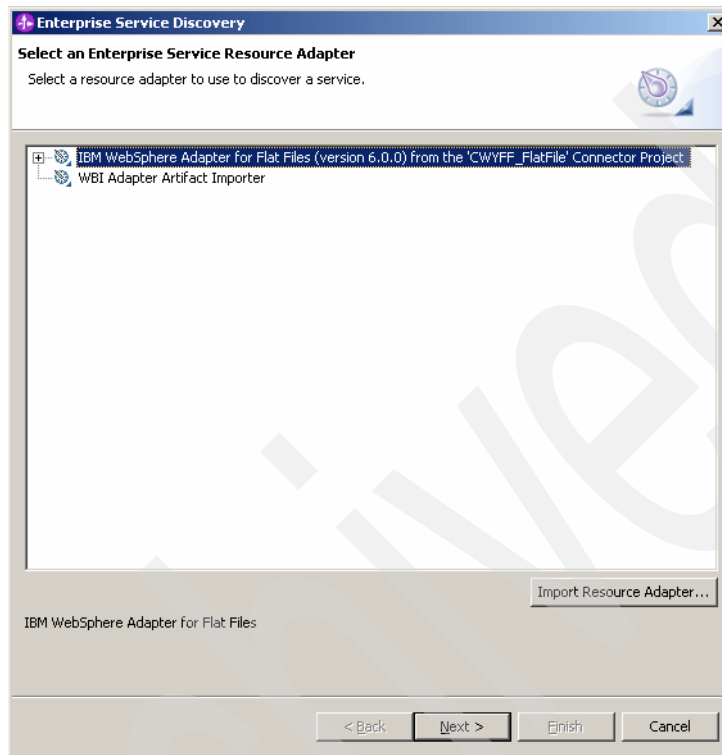

Figure 3-2 Select the Flat File Adapter
2. In the New window click **IBM WebSphere Adapter for FlatFile**. Click **Next** (Figure 3-2).